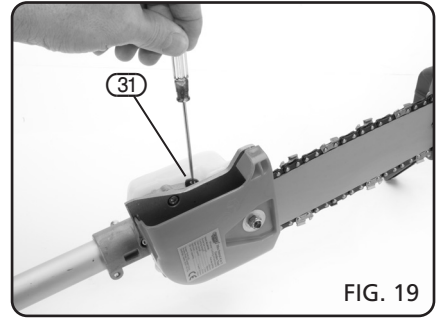

FIG. 19
11.1 ADJUSTING THE OIL FLOW (FIG. 19)